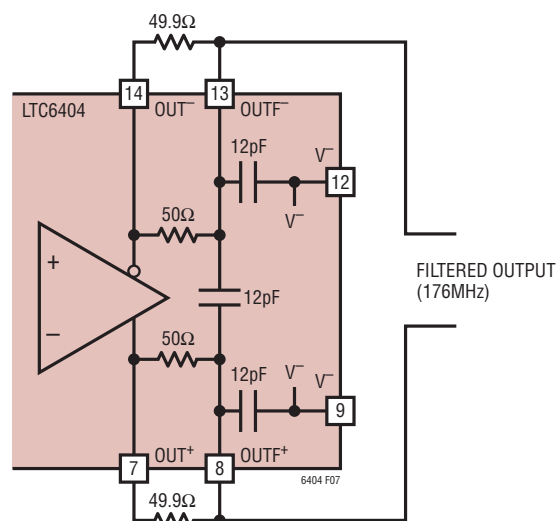

Figure 7. LTC6404 Filter Topology Modified for 2x Filter Bandwidth (2 External Resistors)
88.5MHz, and a noise bandwidth of 139MHz. The filter cutoff frequency is easily modified with just a few external components. To increase the cutoff frequency, simply add 2 equal value resistors, one between OUT^+ and $OUTF^+$ and the other between OUT^- and $OUTF^-$ (Figure 7). These resistors, in parallel with the internal 50 Ω resistor, lower the overall resistance and therefore increase filter bandwidth. For example, to double the filter bandwidth, add two external 50 Ω resistors to lower the series filter resistance to 25 Ω . The 36pF of capacitance remains unchanged, so filter bandwidth doubles. Keep in mind, the series resistance also serves to decouple the outputs from load capacitance. The unfiltered outputs of the LTC6404 are designed to drive 10pF to ground or 5pF differentially, so care should be taken to not lower the effective impedance between OUT^+ and $OUTF^+$ or OUT^- and $OUTF^-$ below 25 Ω .